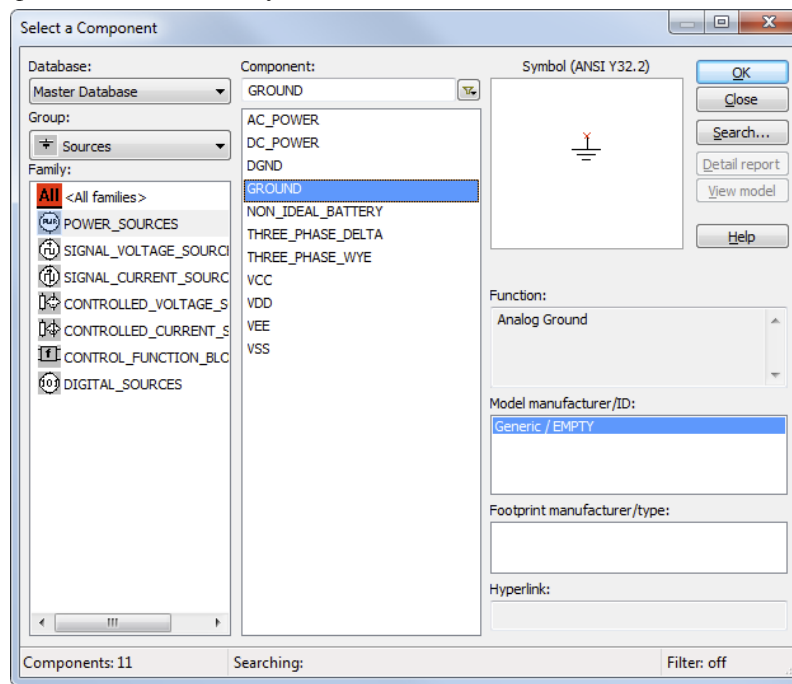

Figure 2. Select a Component window.
2. Select **Place»Component**. The **Select a Component** window appears (also known as the **Component Browser**), as shown in Figure 2.
4. Select the **GROUND** component (as shown in Figure 2).